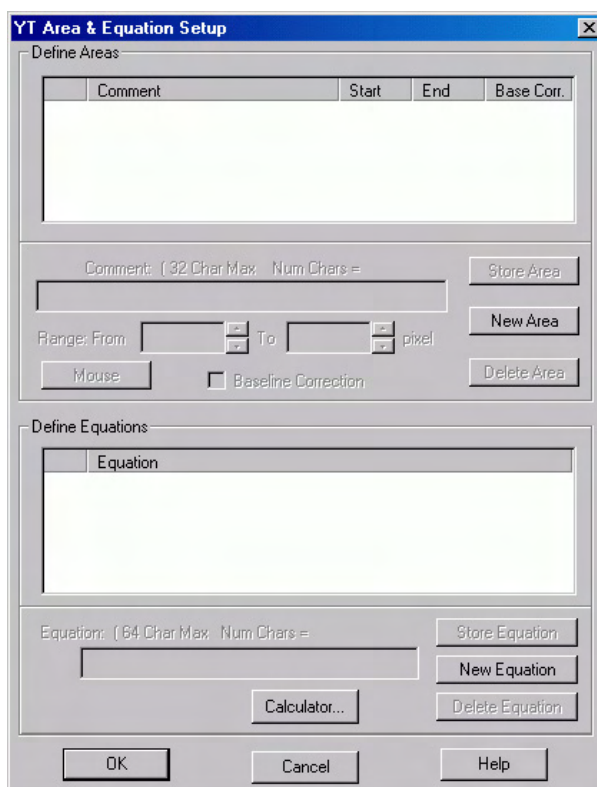

Figure 120. YT Area and Equation Setup dialog box
2. Select **YT Setup...** on the **Acquisition** menu. This will open the **YT Area and Equation Setup** dialog box (Figure 120).